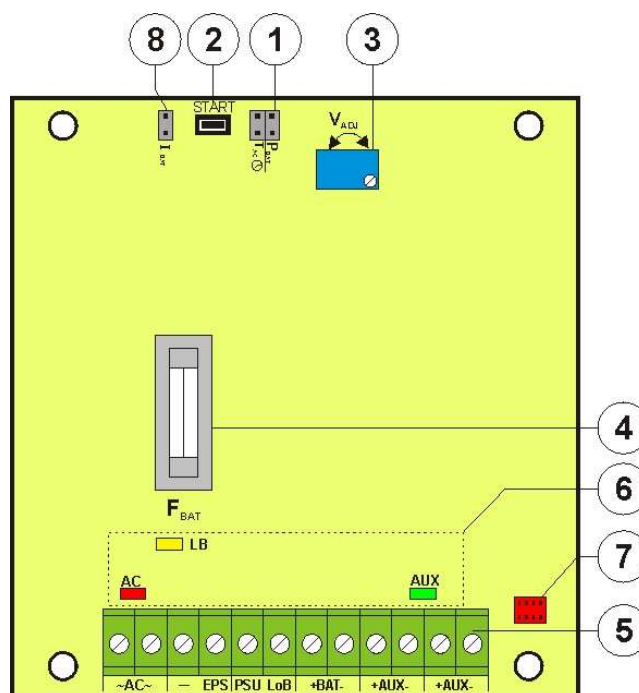

Fig. 2. The view of the Power supply PCB.
1.3 Description of components and power supply terminals (Table 1, Fig.2).
Table 1. Components of the Power supply PCB (Printed Circuit Board) (see Fig. 2).
①	Isolation transformer
②	Printed Circuit Board (see Table 1, Fig. 2)
③	TAMPER ; micro switch of tamper protection (NC)
④	F_{MAINS} fuse in the power supply circuit 230V, T630mA / 250V
⑤	L-N power supply connector, 230V AC,  PE protective connector
⑥	Battery connectors: positive: +BAT = red, negative: - BAT = black